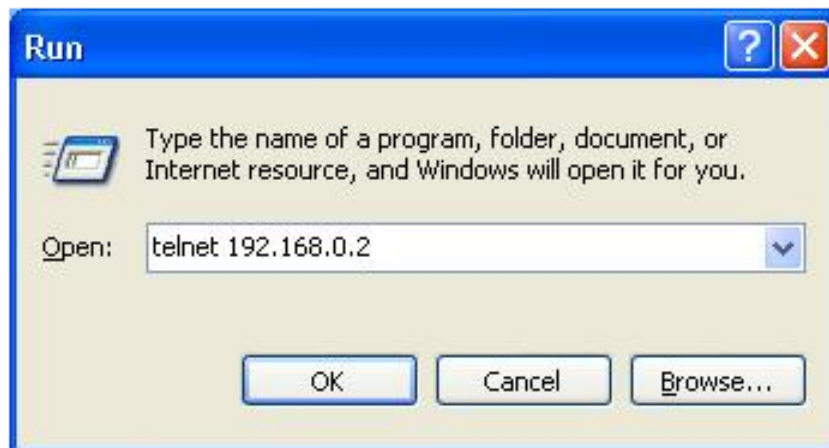

Figure 32 Access through Telnet
Step 2: Enter "telnet IP-address" in the Run dialog box, as shown in Figure 32.